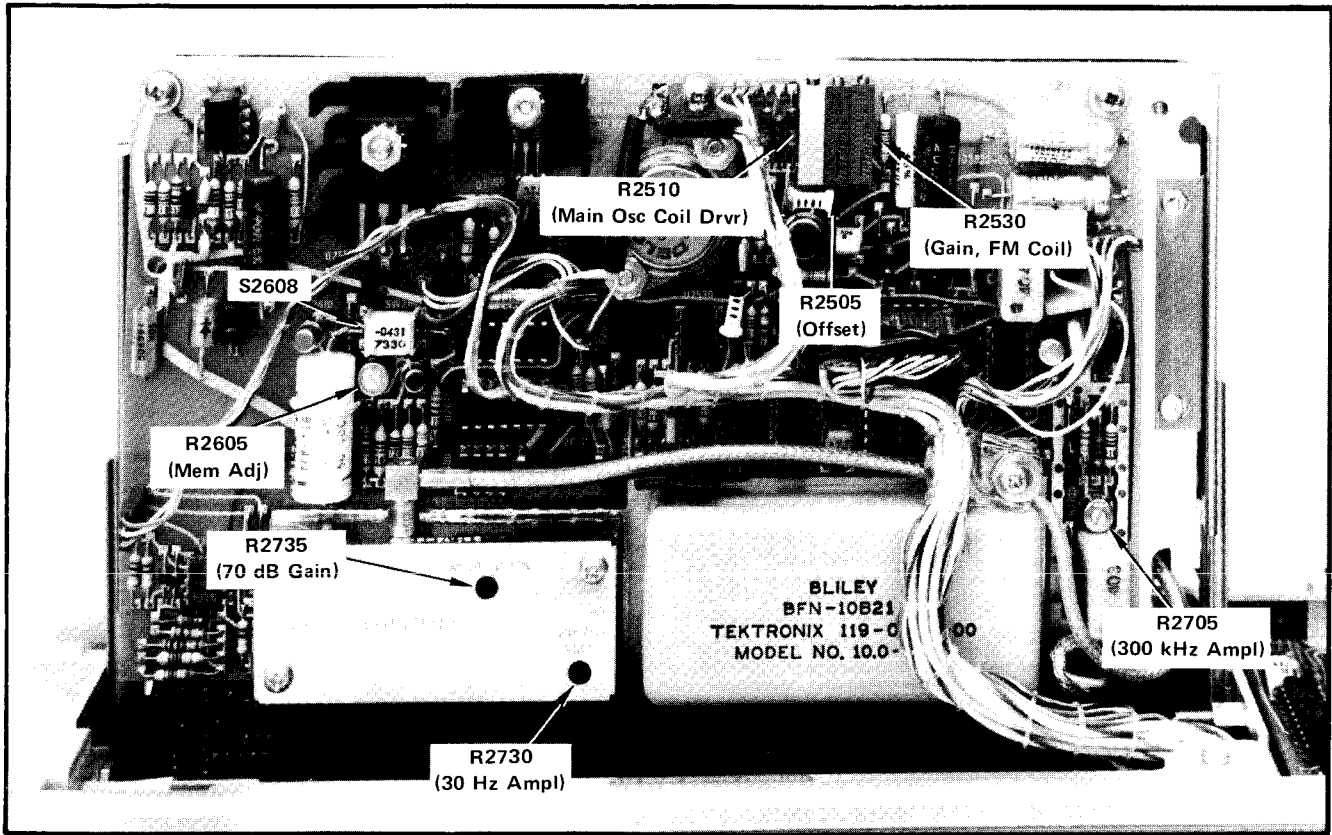
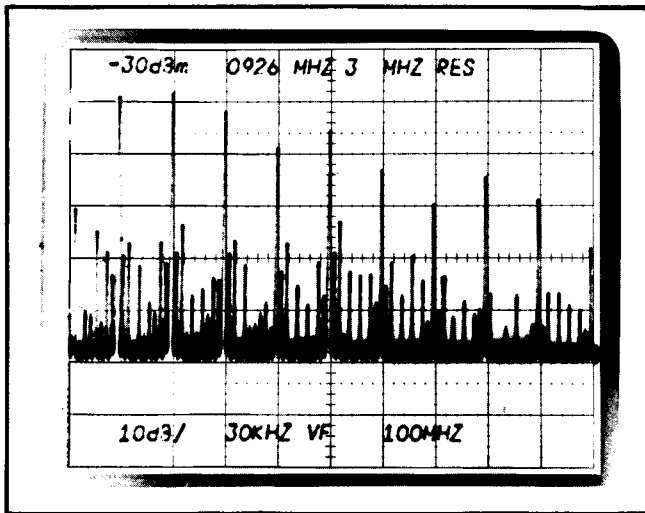

Fig. 4-7. Location of the YIG Driver and Voltage Memory adjustments.
Fig. 4-8. 100 MHz markers on a 100 MHz/DIV frequency span.
c. Adjust the YIG oscillator driver gain with R2510 (Fig. 4-7) to calibrate the 100 MHz/div frequency span at 1 marker/division (see Fig. 4-8).
d. Switch the **FREQ SPAN/DIV** to **MAX** and increase the RF Attenuator setting to 60 dB to attenuate the time markers. Adjust the offset to the YIG oscillator main coil with R2505 (Fig. 4-7) so the 0 Hz marker is at the left edge or start of the display.
f. Adjust the FM coil driver gain with R2530, (Fig. 4-7) to calibrate the 1 MHz/div frequency span.